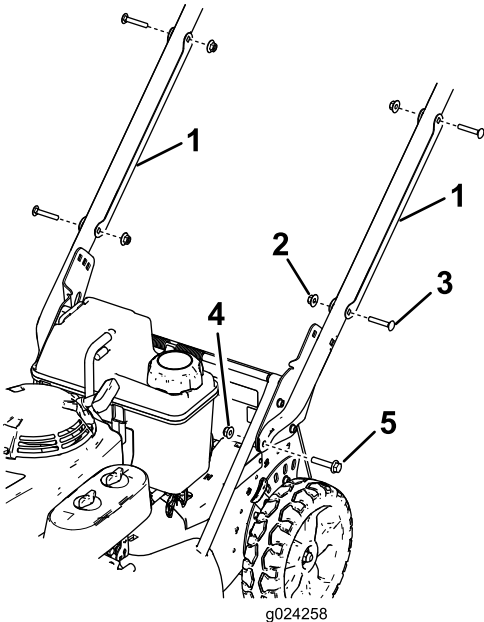

Figure 3
1. Remove the 2 cable guards from the handle (Figure 3) by removing the 2 carriage bolts and 2 locknuts that hold each cable guard to the handle.
2. Install the handle ends onto the mower housing with 2 hex-head-flange bolts (5/16 x 1-1/2 inches) and 2 flange nuts (5/16 inch) as shown in Figure 3.
6. Position each cable guard onto the handle with the cable(s) inside the guard, and secure each to the handle with the 2 carriage bolts and the 2 locknuts that you previously removed (Figure 3).